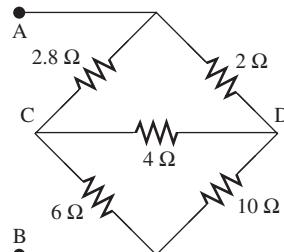

FIGURE P3.13 Bridge circuit.
- 3.13 (H)*** Find R_{AB} in Figure P3.13 using Δ -Y transformation shown in Problem 3.12.